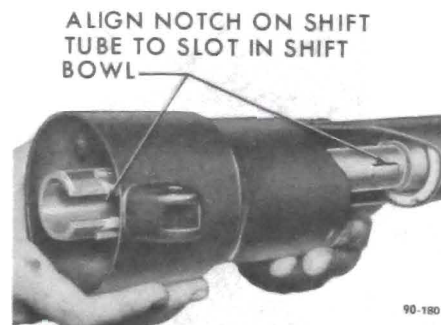

Figure 90-124 - Installing Shift Bowl
8. Install bowl and rotate it to be sure it is seated in bearing. See Figure 90-124. Shift lever must not be installed before installing bowl.
2. Insert the shift tube assembly into the lower end of the jacket and rotate until the upper shift tube key slides into the bowl keyway. See Figure 90-124.